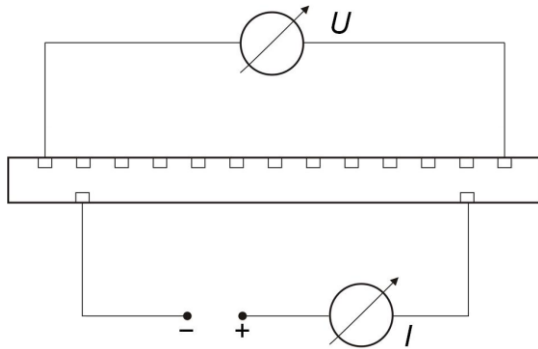

Fig. 1 Schematic illustrating four-terminal sensing
- Connect up the power supply and ammeter as in Fig. 1. The metal bars have additional holes for connecting electricity next to the second and twelfth measuring positions.